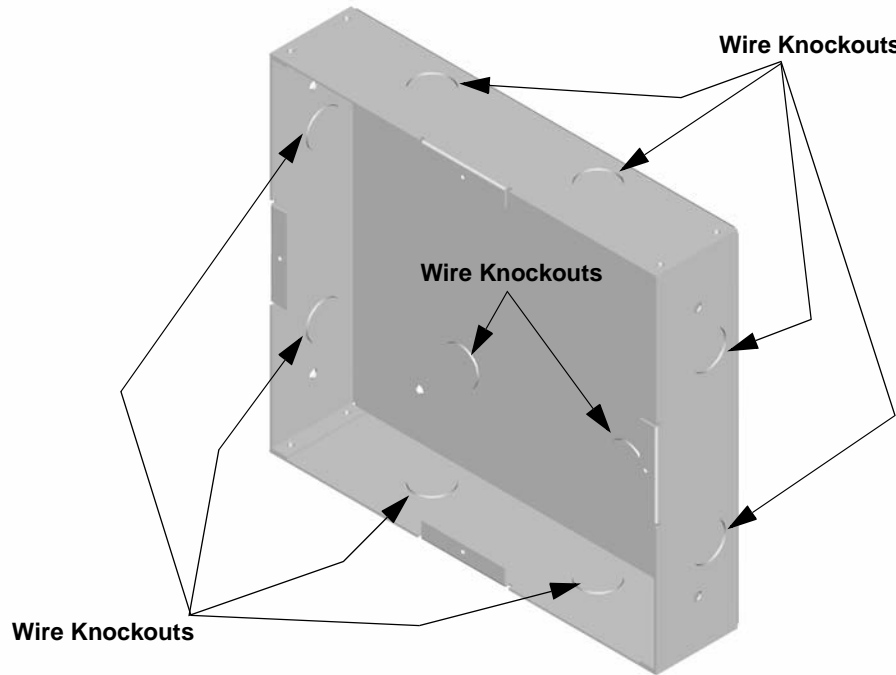

Figure 4-26 Backbox Knockout Locations
2. Remove knockout holes as needed for wires. See Figure 4-26 for backbox knockout locations
- Remove the desired knock out. See Figure 4-26.